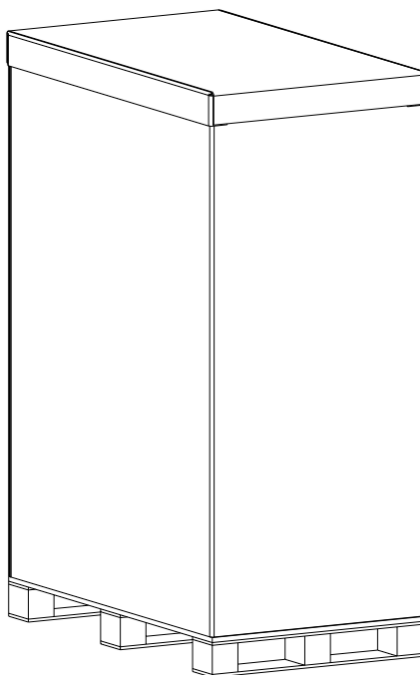

Figure 3-3 Transport to the designated site
Step 2: Transport the equipment to the designated site by forklift, as shown in Figure 3-3: